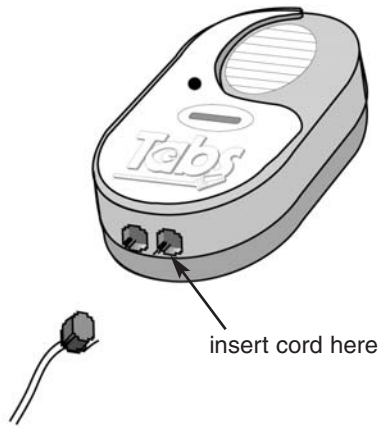

Figure 16
5. Plug the bed pressure pad cord into the right jack on the bottom of the TABS® monitor (Figure 16). An alarm will sound if a pad is plugged into the nurse call (left) jack and weight is applied to the pad.